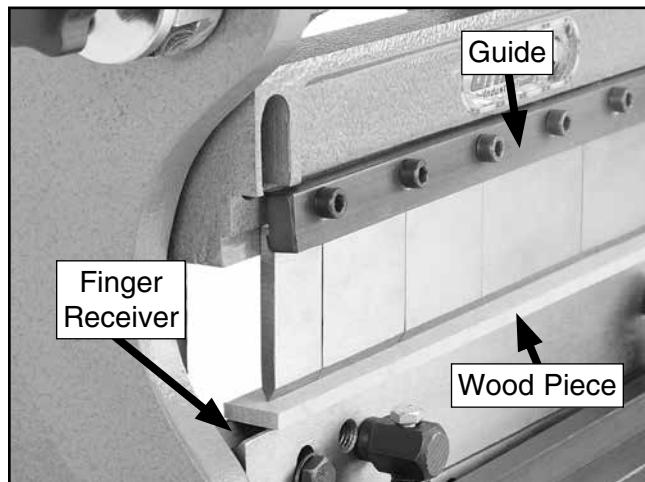

Figure 45. Seating fingers with a piece of wood that is flat on both sides.
4. Place a $\frac{1}{8}''\text{--}\frac{1}{4}''$ piece of wood that is as long as the finger receiver onto the receiver (see **Figure 45**). Wood must be perfectly flat on each side for procedure.